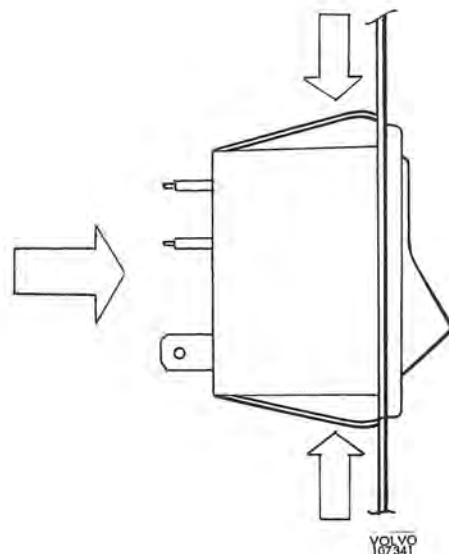

Fig. 3-108. Removing headlight switch
4. Remove the switch by first pressing in the lock springs and then pressing the switch out of the panel, see Fig. 3-108.